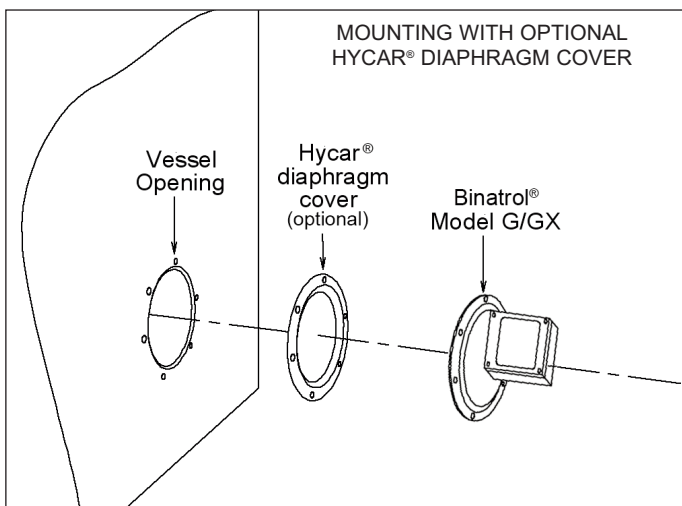

Figure 3
3) Optional Hycar® Diaphragm Cover (See Figure 3) -
If the optional Hycar® diaphragm cover is being used, please see Figure 3 for an installation diagram.